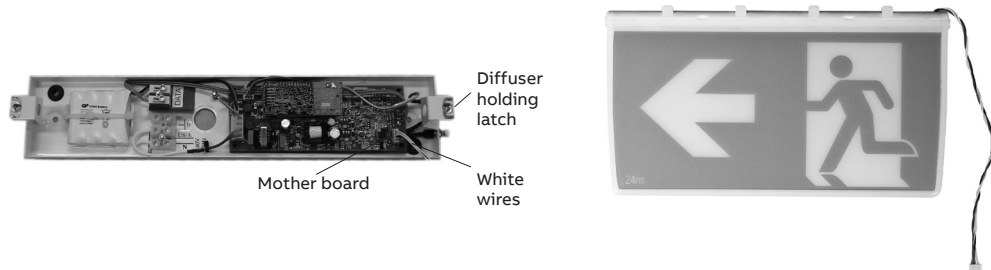

Figure 2: Connect wire loom plug to the mother board
2. Once the base is secured to the ceiling, hold the diffuser assembly in your hand and connect the diffuser wire loom polarised plug to the mother board (refer figure 2), the white wires on the plug should be towards the centre of the fitting. Once the plug is connected, lay the wire loom carefully inside the base. Place one end of the diffuser in the diffuser holding latch hole (refer figure 2) and then push up the other side of the diffuser, the diffuser clicks and locks in place. Once the diffuser is locked in place, the cover is easily fixed to the base via 2 screws. Hold the cover in your hand and bring up to the base, pass diffuser through the cut out; make sure the side rectangular cut out on the cover for the LED and test switch lines up with LED and test switch on the base. Once the holes on both sides of the base and cover line up, secure with the screws provided.